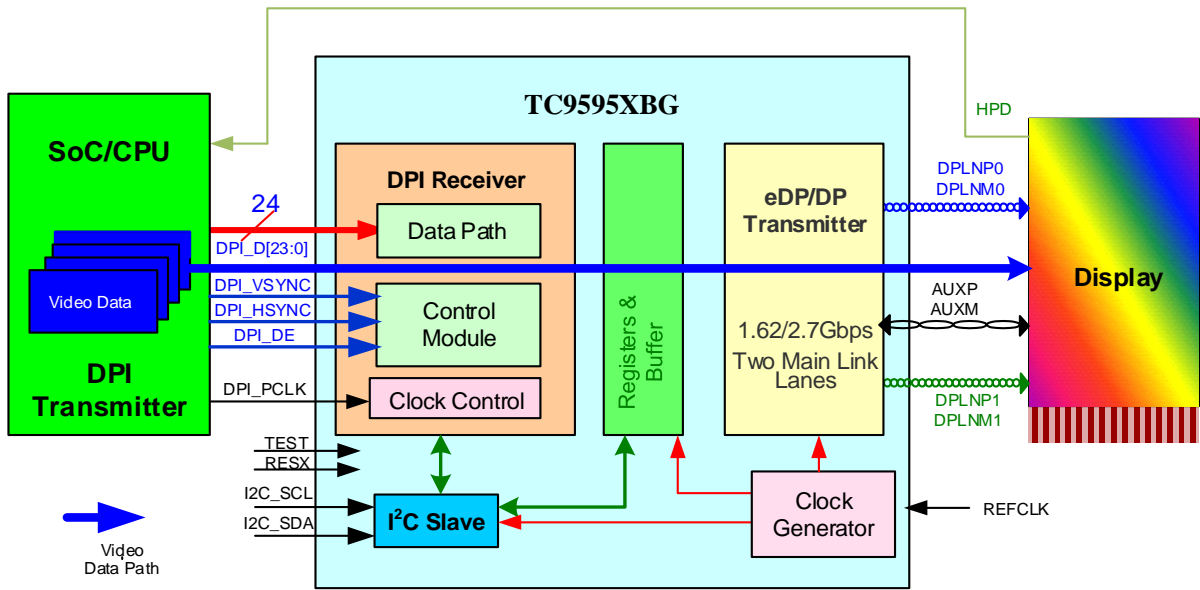

Figure 1.2 System Overview with TC9595XBG in MODE_P21 Configuration
- Mode_P21: A system configuration where TC9595XBG may typically be used is shown in Figure 1.2. This is similar to the Mode_S21 except that the video stream source is from DPI Host. In this configuration, the TC9595XBG can support displays with resolution up to WUXGA (1920×1200) at 24bit, 60 fps.